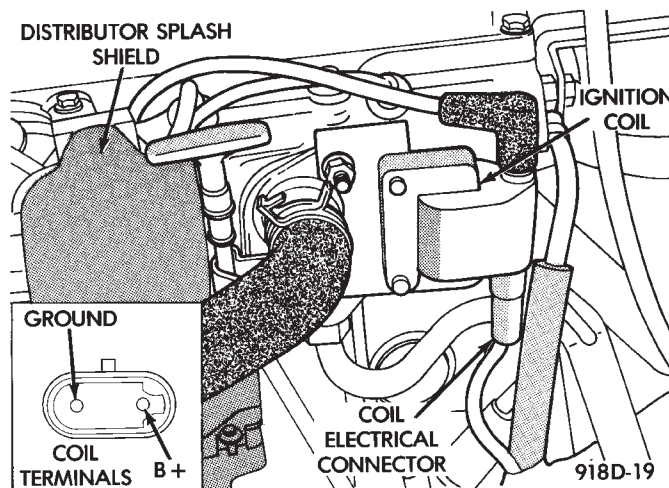

Fig. 2 Ignition Coil
- (1) Check Ignition Coil Electrical Connections (Fig. 2).